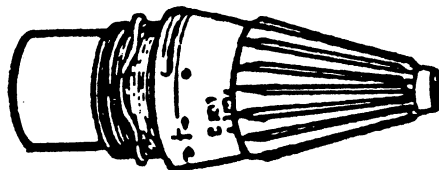

Fig 3-17. M532 (VT) fuze.
- (1) The M532 (VT) fuze (fig 3-17), is a radio doppler fuze that has a proximity or SQ/IMP function. Once you set it to act as an impact fuze, the mechanism cannot be reset for PROX. To convert the fuze from PROX to SQ/IMP, you must rotate the top of the fuze $1/3$ of a turn in either direction. This action breaks an internal shear pin and an internal wire thereby disabling the proximity function. This fuze comes separately and is used to replace the M524 and M567 fuzes on the HE round only.